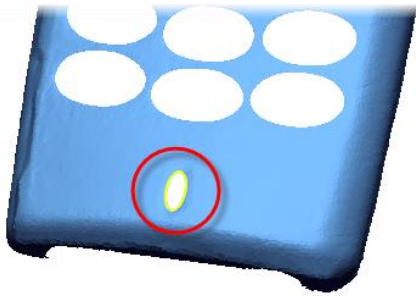

Figure 417
- Select the microphone hole boundary on the bottom of the phone (**Figure 417**) using the default settings.